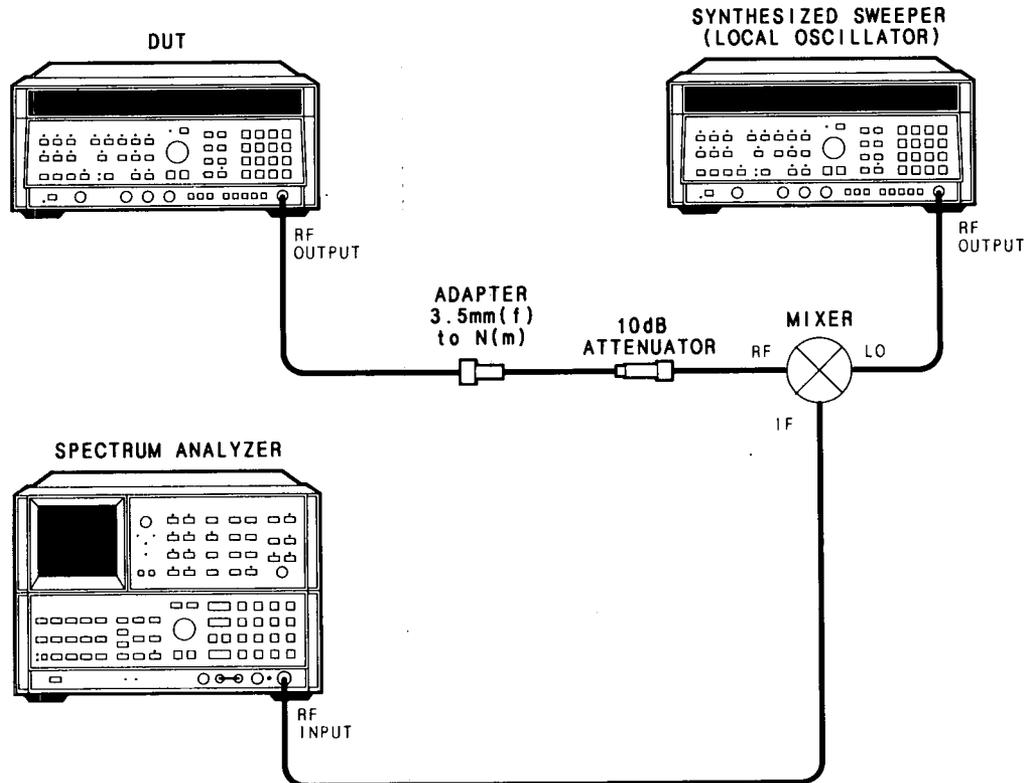

Figure 5-59. Leveled Squegging Test Setup
24. Connect equipment as shown in Figure 5-59. Connect the mixer LO input port directly to the LO RF output connector to obtain maximum mixer LO input level. Allow at least 30 minutes warm up time.